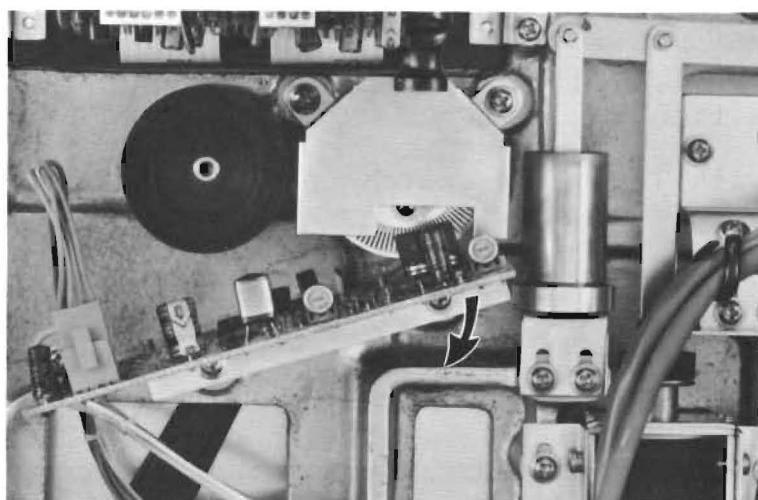

FIGURE 5-11. COUNTER TACHOMETER BOARD ON UNDERSIDE OF TRANSPORT
7. If adjustment is called for, unlatch the transport and tilt it up. Find the counter tachometer board (below the tach roller as shown on figure 5-11).